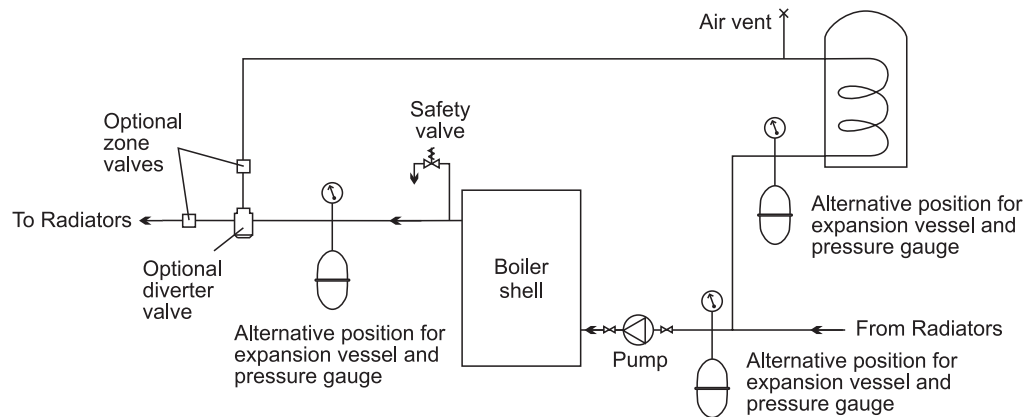

Fig. 8
See Figs. 8, 9 and 10
3.10.1 Sealed system - (See Fig. 8)
- 3 The expansion vessel can be fitted in either the return or flow pipework in any of the recommended positions as shown in Fig. 8. To reduce the operating temperature of the expansion vessel diaphragm, position it below the pipe to which it is connected. The expansion vessel may be positioned away from the system, providing the connecting pipe is not less than 13 mm diameter. Refer to section 4.8 for further details of the expansion vessel.